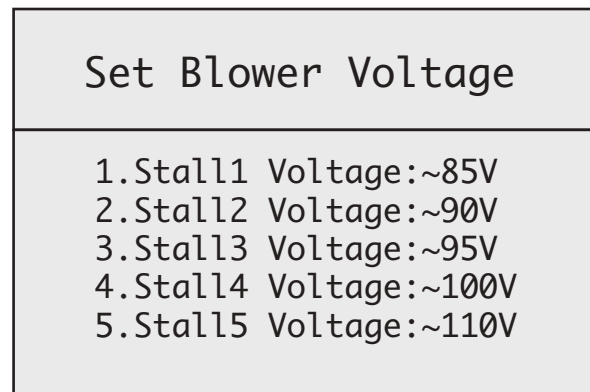

Figure 26
2. Using the **SCROLL DOWN** key, move down to option 4: “**SET BLOWER VOLTAGE**”. Press **ENTER** again to move into the “**SET BLOWER VOLTAGE**” screen. **SEE FIGURE 26.**